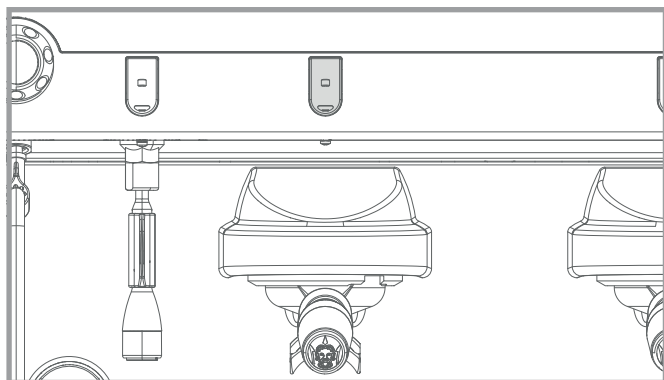

Fig. 5.2 - Device control
- Press the dose dispensing button corresponding to the desired dose (☐ / ☐ / ☐ / ☐); press the dispensing button for the semi-automatic version (see Fig. 5.2).